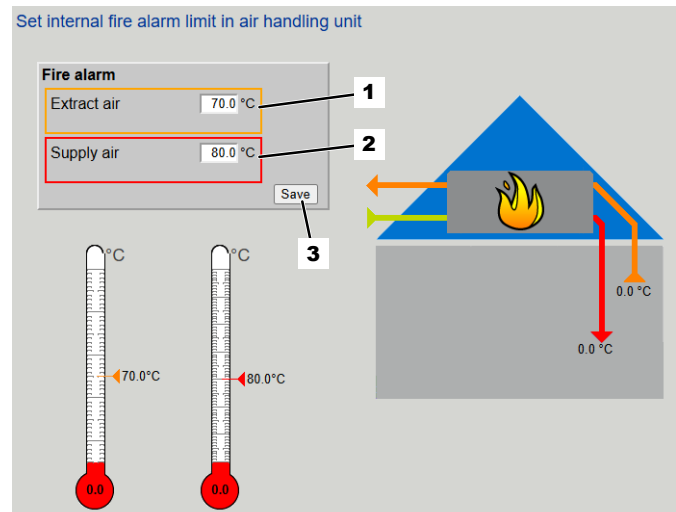

Fig. 45: Setting temperature limits for a fire alarm
- Enter the extract air temperature limit ( Fig. 45 /1).
- Enter the temperature limit for the supply air fan ( Fig. 45 /2).
- Click on 'Save' ( Fig. 45 /3).